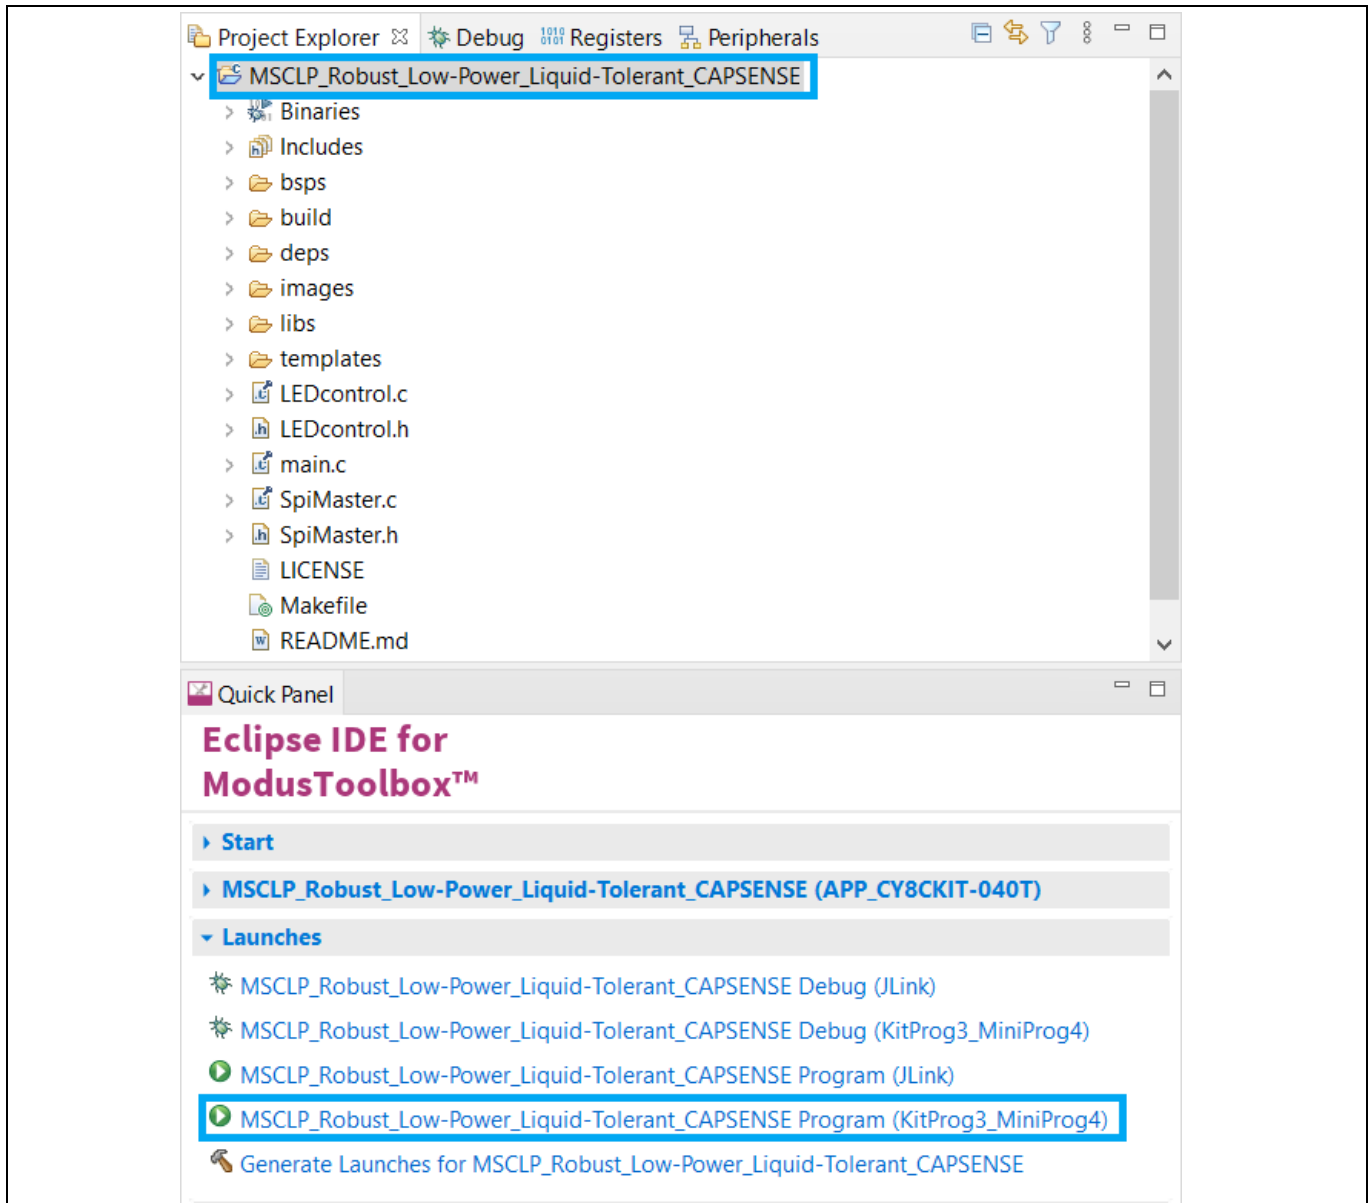

Figure 14 Building and programming the code example
3. To build and program a PSoC™ 4000T device application, in the **Project Explorer** tab, select **<App_Name>** project. In the **Quick Panel** tab, scroll to the **Launches** section, and click the **<App_Name> Program (KitProg3_MiniProg4)** configuration, as shown in Figure 14.